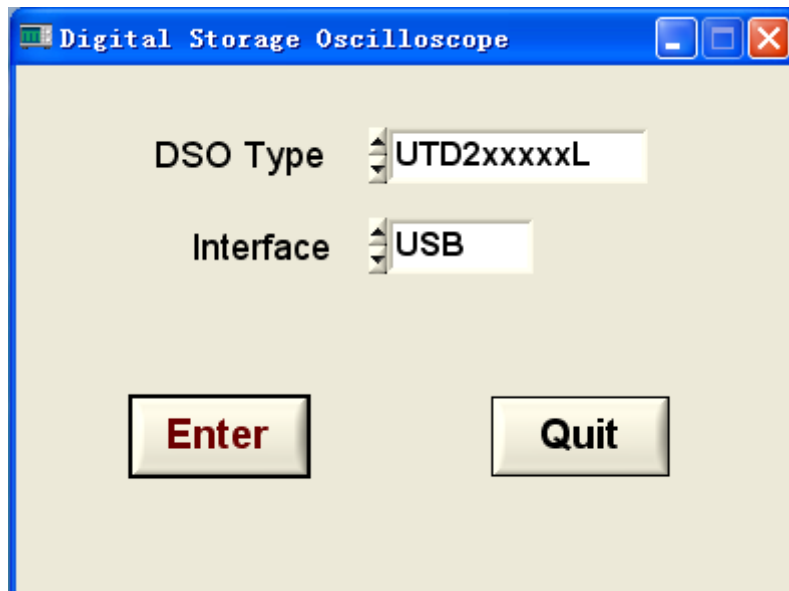

Figure 1-20
- (3) In the pop-up dialogue box, select the interface type that matches your oscilloscope model (Figure 1-20).